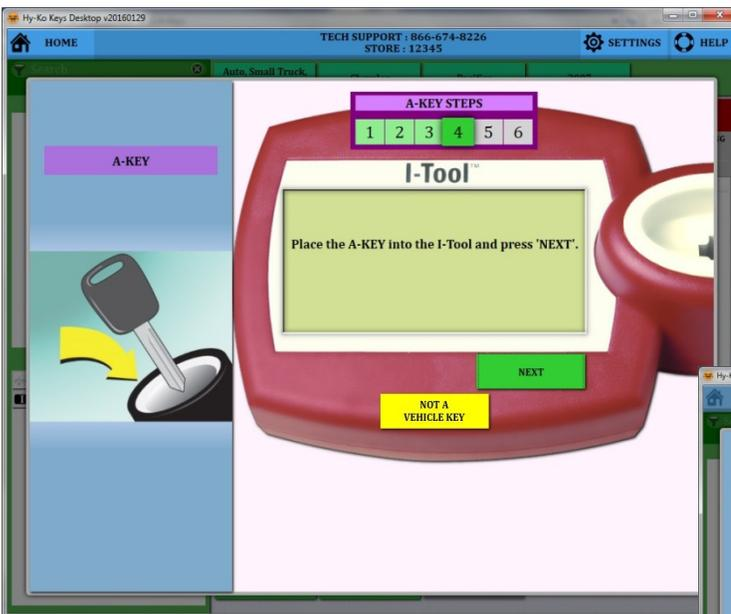

fig. 90
- Insert the new A-Key into the I-Tool and click the **'NEXT'** button (see fig. 90).